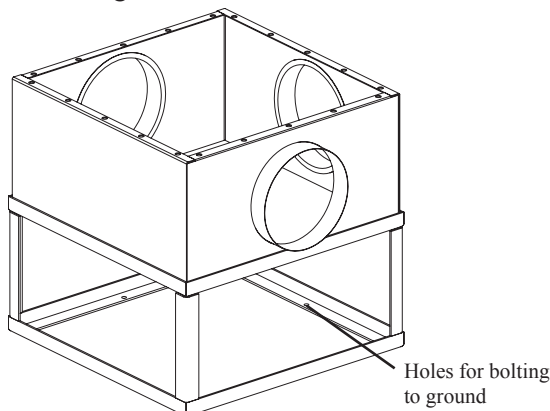

Fig. 1
5. Bolt the air cleaner to the floor in its final location using the provided holes in the floor stand. (Fig 1).